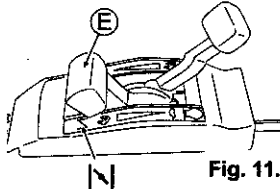

Fig. 11.
- 3 Set Throttle lever (E) to Choking "N". (See Fig. 11.)